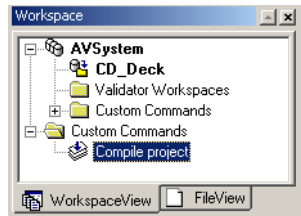

Figure 31: Navigator workspace with custom command
- 12 When you have created a custom command, it is added to the Project Custom Commands folder in the workspace browser. *Figure 31*, page 44 shows a Navigator workspace with a custom command named `Compile project`.
You activate a custom command by double-clicking it in the Navigator workspace browser. See *Figure 31*, page 44.